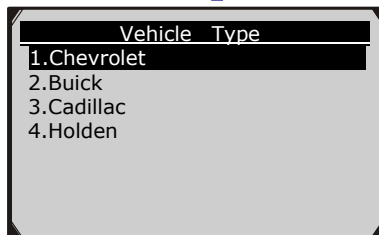

Figure 6.5
- 4) Select the specific vehicle brand from the **Vehicle Type** menu. (Figure 6.5)